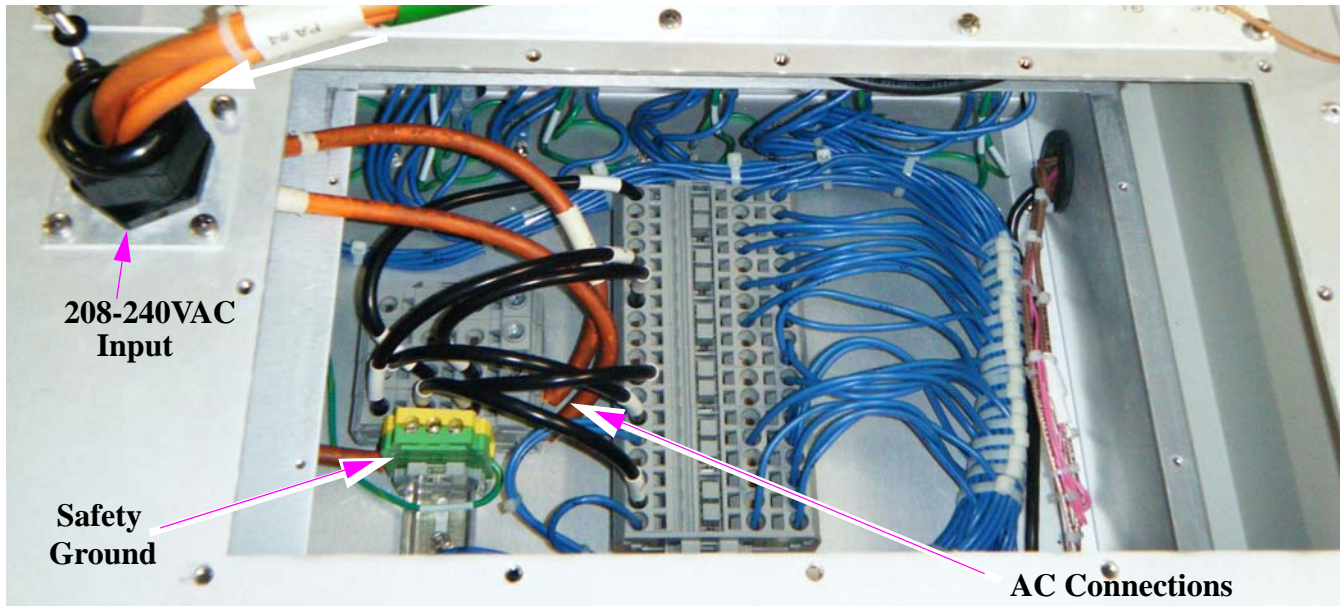

Figure 2-4 UAX AC Mains Connections (top of cabinet, access panel cover removed)
There are two AC power connections needed for the UAX Indoor System. 208-240VAC is required and connected inside the AC access panel shown in Figure 2-4. See the AC wiring diagram 843-5602-148 in the UAX drawing package 943-5276-170.
- STEP 3** Connect a safety ground cable from the ground connector shown in Figure 2-4 to the AC mains ground.